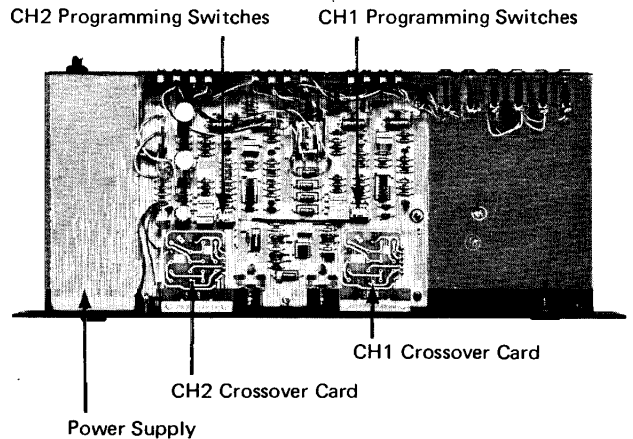

Figure 4 — Identification of Major Components Inside 5234A
2. Remove the old crossover cards by lifting both sides of a card simultaneously and gently (Figure 4). Friction from the three mounting pins and the electrical connector must be overcome.
Inside the 5234A, each channel is equipped with a miniature bank of five On-Off slide switches. Each bank of sliders is housed in small rectangular package resembling an integrated circuit, and since the multi-switch housing has two rows of pins which secure it to the circuit board, it is known as a dual in-line pin switch (hence "DIP"). Each of the two DIP switches performs the identical functions, one for Channel 1 and the other for Channel 2 (Figure 4).